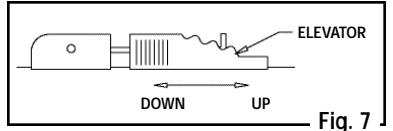

Fig. 7
- The rear sight may be adjusted to shoot higher or lower (elevation). Move the rear sight elevator forward to make the BB hit higher on the target. Move the rear sight elevator back to make the BB hit lower on the target. When moving the elevator, slightly lift the rear sight and reset it on the desired notch in the elevator (Fig. 7).